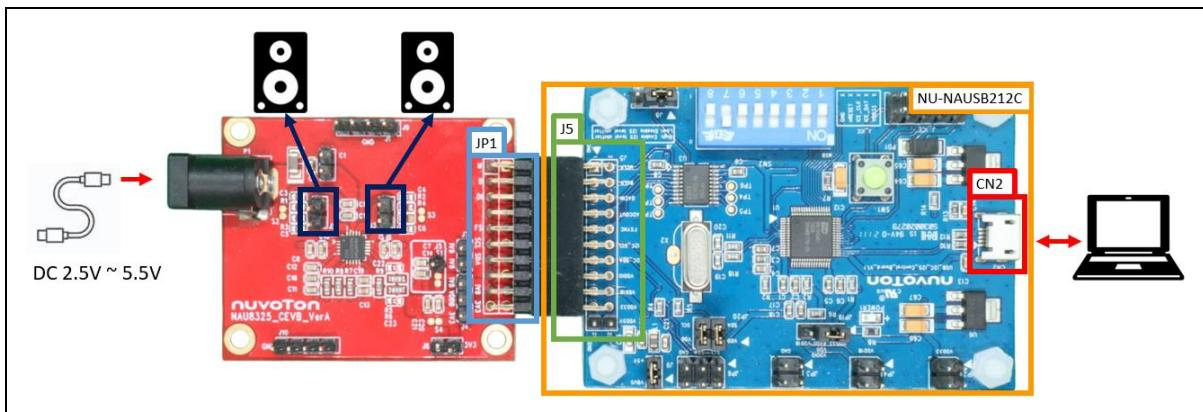

Figure 2-4 NU-NAUSB212C Connection
2. Connect J5 of NU-NAUSB212C to JP1 of NL-NAU8325. Figure 2-4 is the diagram after two boards are connected to each other.